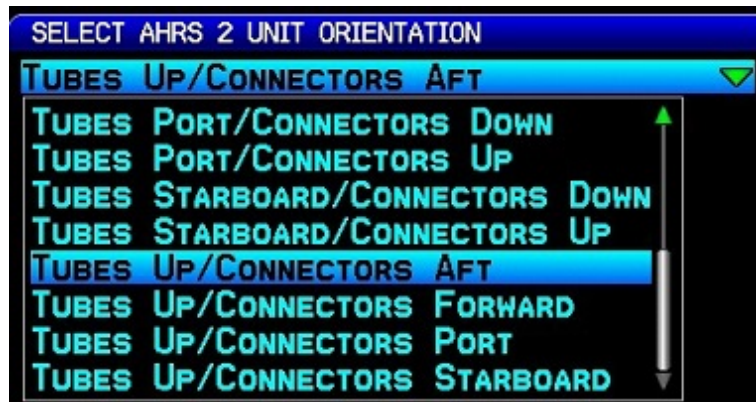

Figure 17-2 AHRS Orientation Selection
- Mount the GSU 25 with the connectors aligned within 1.0 degree of either the longitudinal or lateral axis of the aircraft. The direction of the unit will be accounted for during the calibration procedure as shown in Figure 17-2.